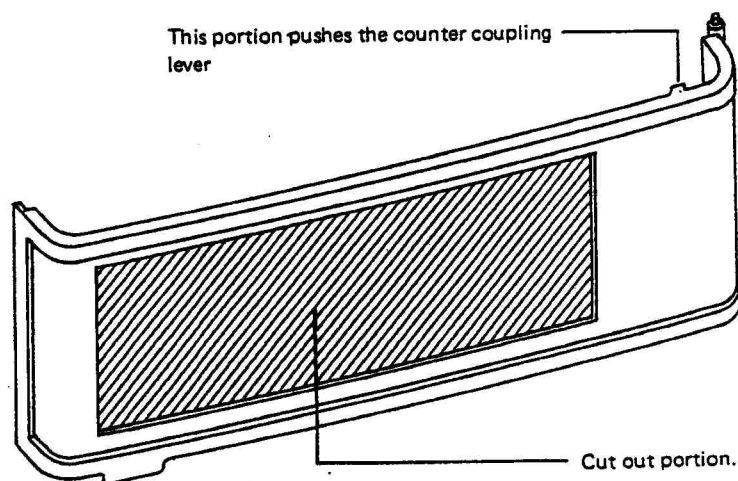

Fig. 68
(1) The Modified Back Cover. (fig.68)
(4) AUTOMATIC EXPOSURE ADJUSTMENT. (IMPORTANT – See Fig. 68.)